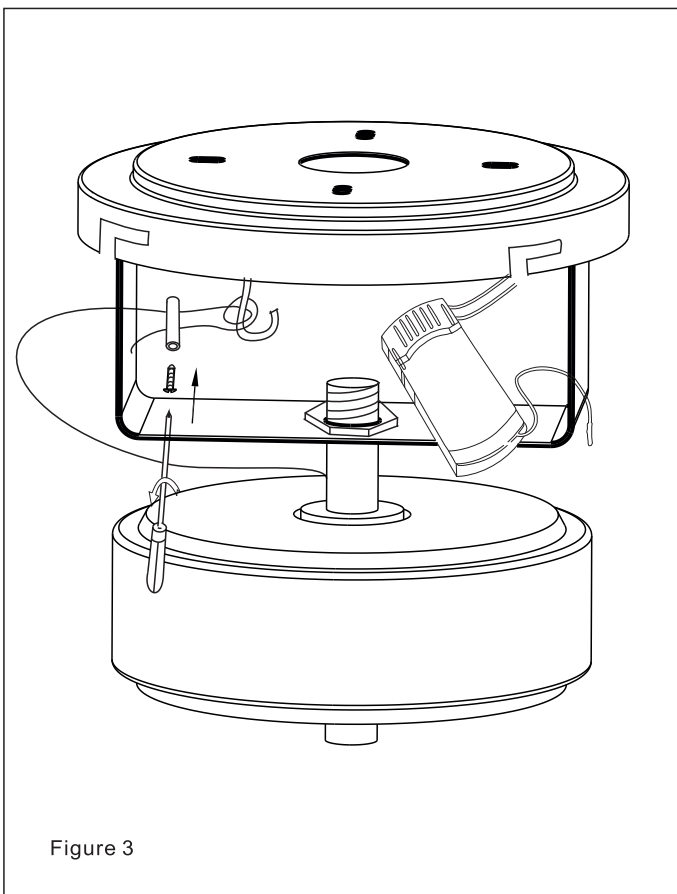

Figure 3
4.Remove the Safety Cable Screw from the Screw Pack. Arrange and tie the Safety Cable as part 2. Firmly screw the Safety Cable onto the hook.(Fig.3)